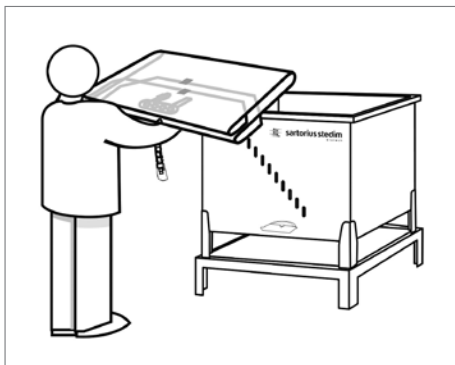

Fig. 12
9. To position the bag inside the Palletank® (see Fig. 12):